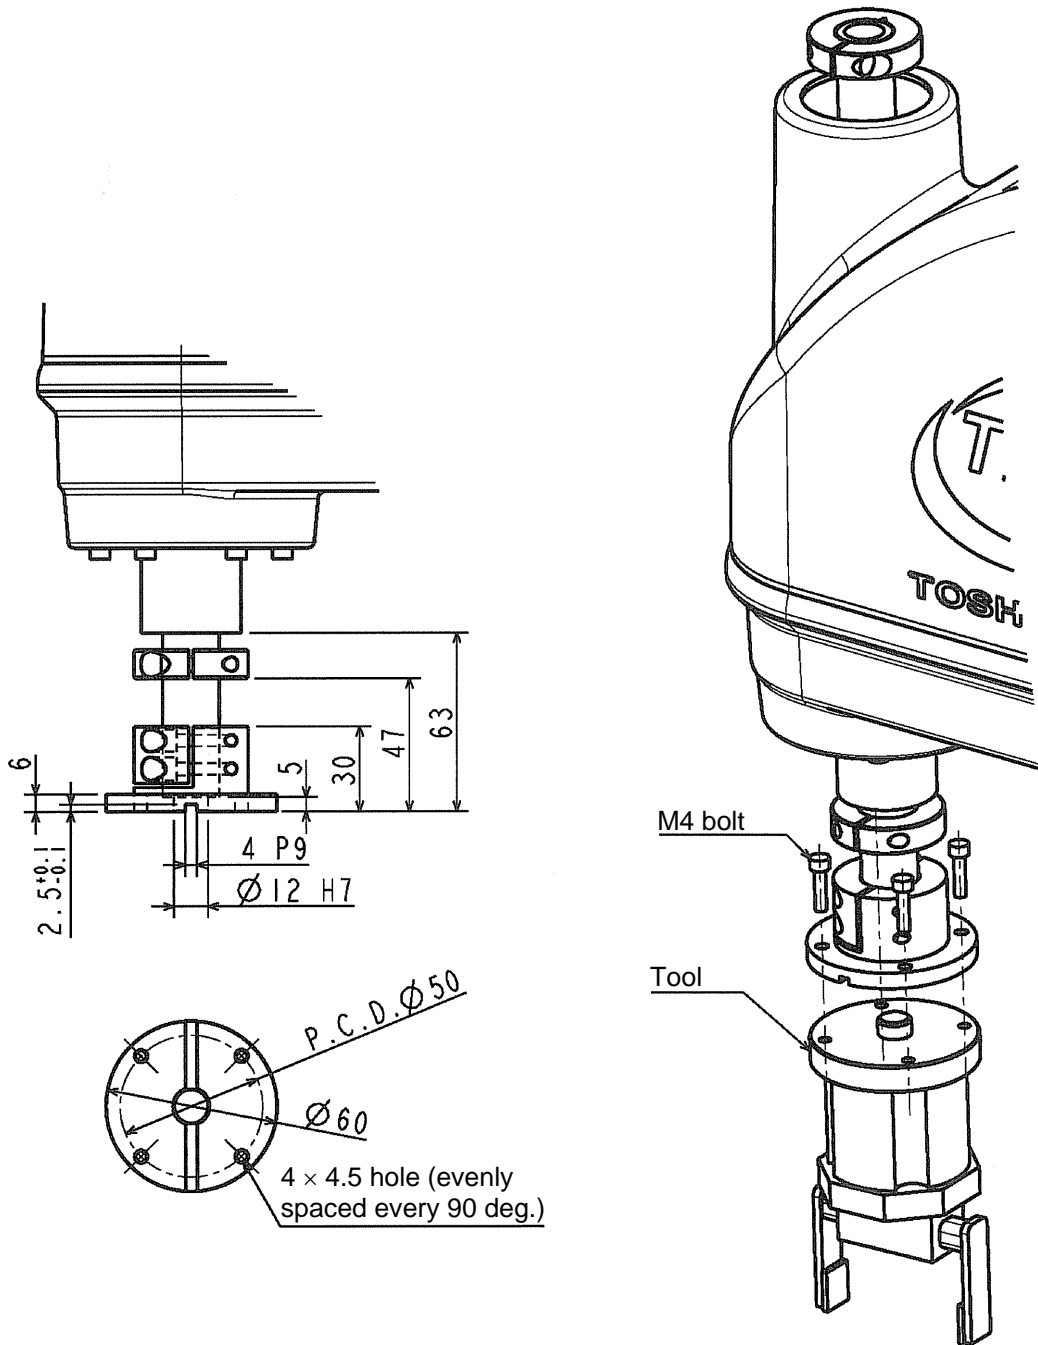

Fig. 5.1 Tool mounting dimensions
The tool is mounted on the end of the tool shaft. Dimensions of the tool shaft section are shown in Fig. 5.1.
As shown in Fig. 5.1, the tool is centered with the $\varnothing 12H7$ mating section. The tool direction is adjusted by means of the 4×4 keys and secured with four (4) M4 bolts.